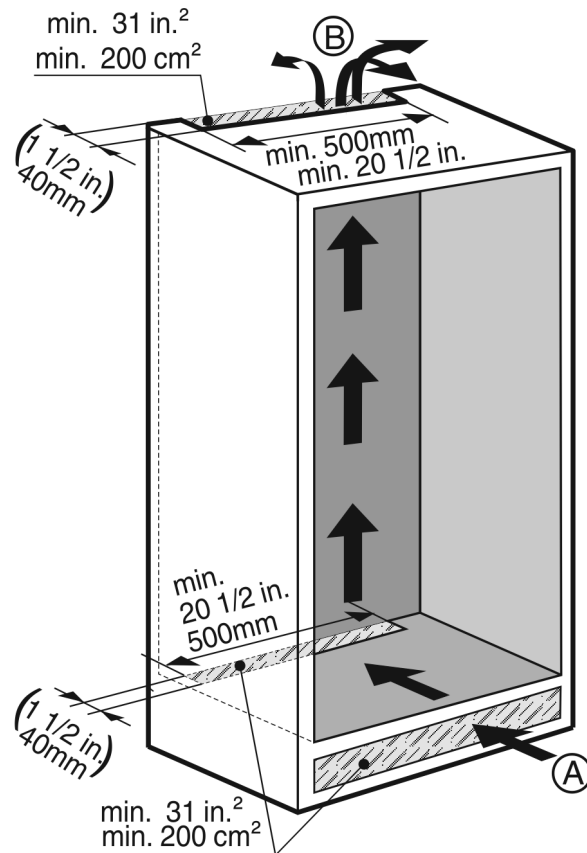

Fig. 5
- There must be an effective ventilation gap of at least 31 in² (200 cm²) per appliance for the air inlet Fig. 5 (A) and the air outlet Fig. 5 (B).